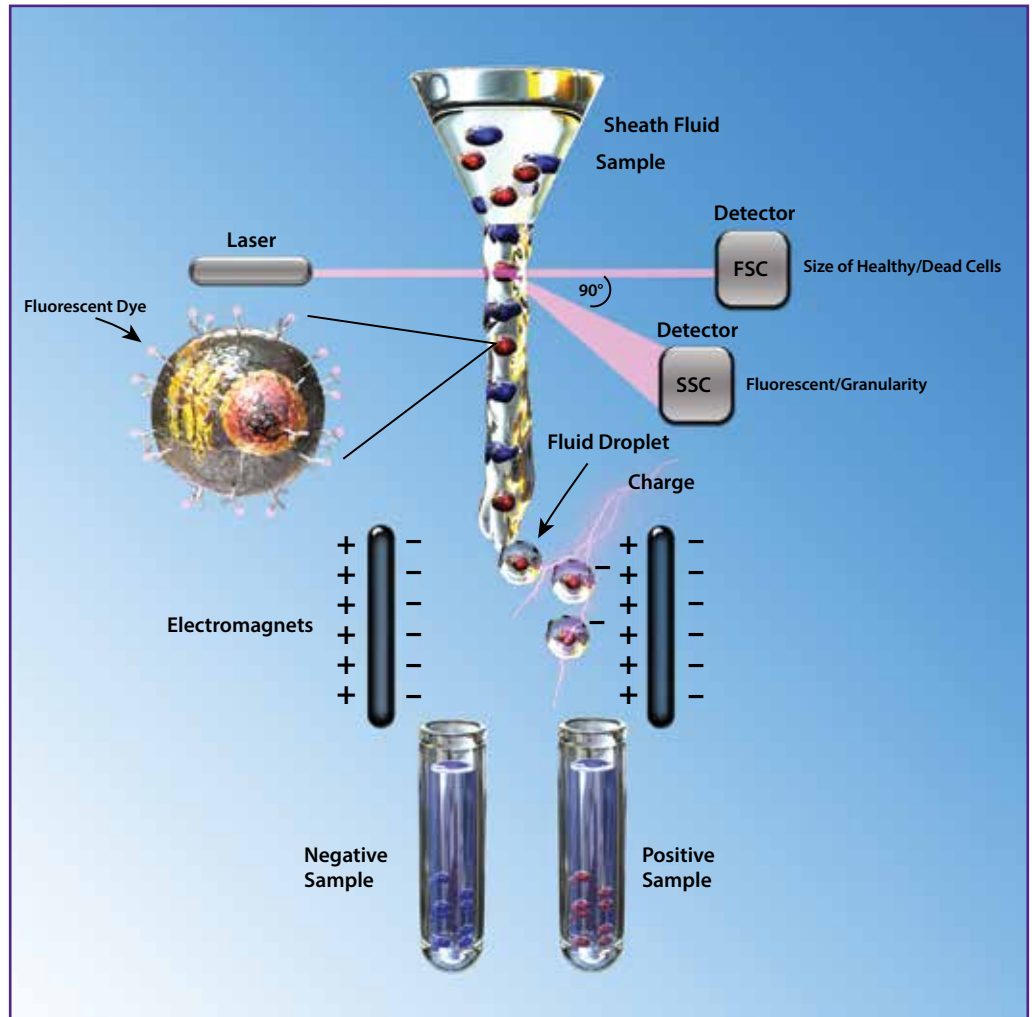

Figure 3. Schematics representing a classical droplet FACS system.
Figure 3. BMDM to Osteoclast Differentiation. BMDMs at day 14 were treated with 25 ng/mL recombinant mouse M-CSF (Cat. No. 576402) in MEM-Alpha medium + 10% FBS for 3 days. After which, the cells continued to be incubated in the same medium, but with increasing concentrations (0-480 ng/mL) of recombinant mouse RANKL (Cat. No. 769402) up to 8 days. (A) Change in morphology of the cells to resemble osteoclasts was observed at 240 ng/mL and 480 ng/mL under the microscope. (B) High levels of TRAP (Tartrate-Resistant Acid Phosphatase) activity, a signature marker of osteoclasts, was observed with increasing concentrations of recombinant mouse RANKL (Cat. No. 769402). TRAP activity was measured at OD 405 nm.